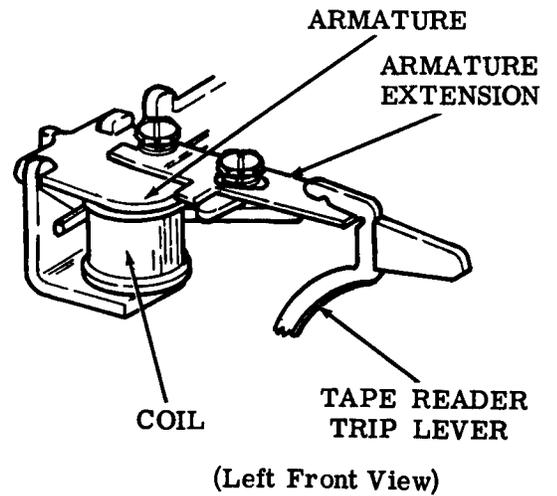

Figure 9 - Distributor Clutch Trip Coil (Energized)
3.13 If the control lever is kept in the START position, the distributor clutch trip coil will remain energized (Figure 9).